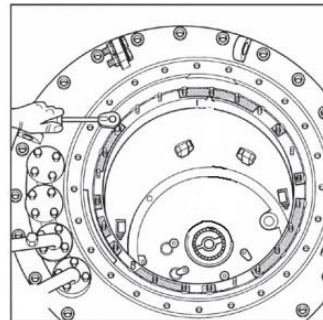

Figure 20
- (3) Remove the fastening nut (5 M8 nuts, No. 13 wrench) on the switch support body support plate (no red area) (Fig. 20).